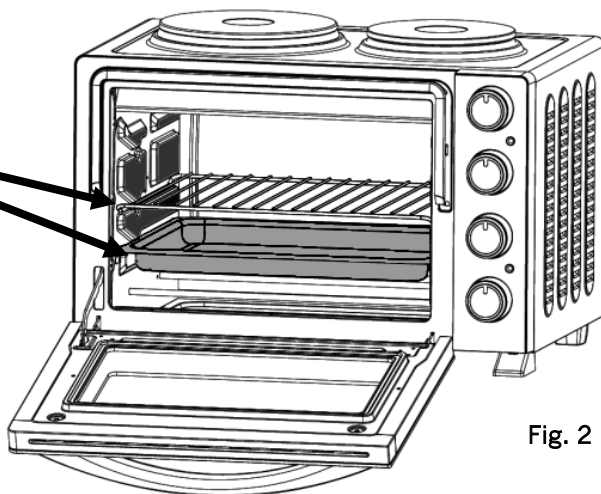

Fig. 2
- Where to fit the baking tray and rack – see Fig. 2
- Slide the grill rack and / or baking tray onto the rack supports (Fig. 2)
- If placing food directly onto the grill rack, fit the baking tray into the lower oven rack rest to act as a drip / crumb tray (Fig. 2 & 11).